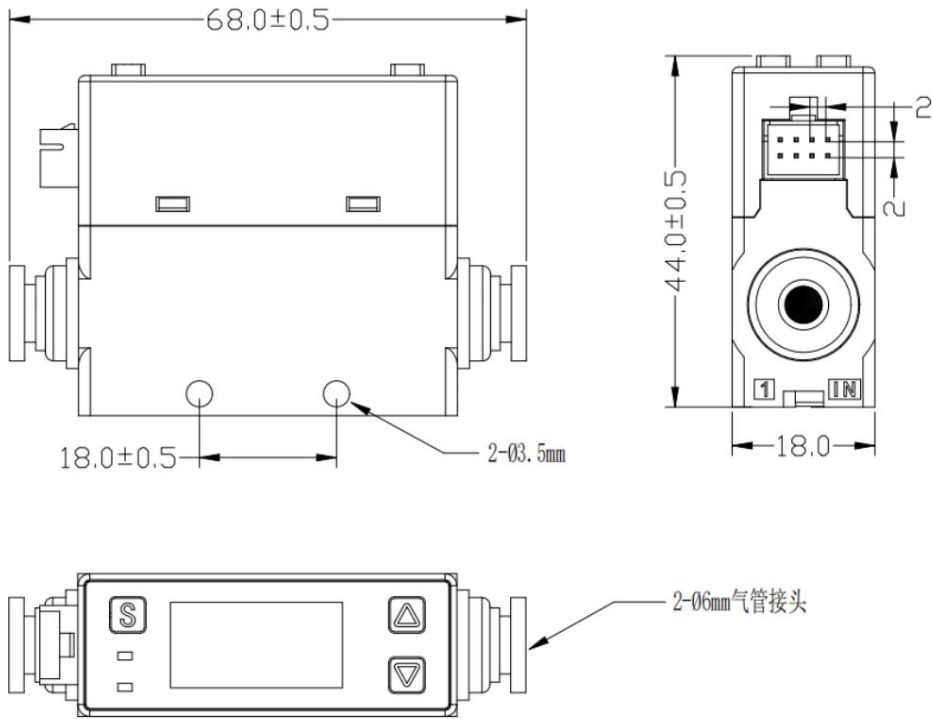

Figure 4. AFM0725 Dimensions (Unit: mm)
3.1 The dimensions of AFM0725 are shown in Figure 4.